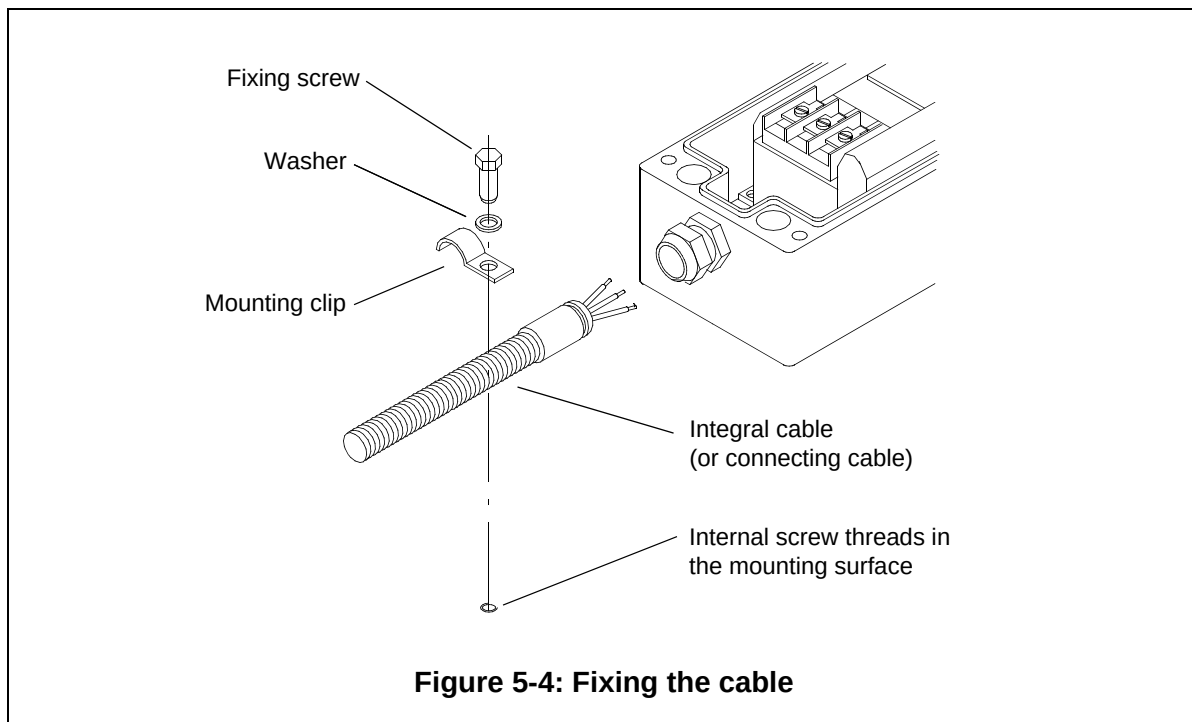

Figure 5-4: Fixing the cable
- 6) Position the mounting clips on the integral cable (see Figure 5-4).